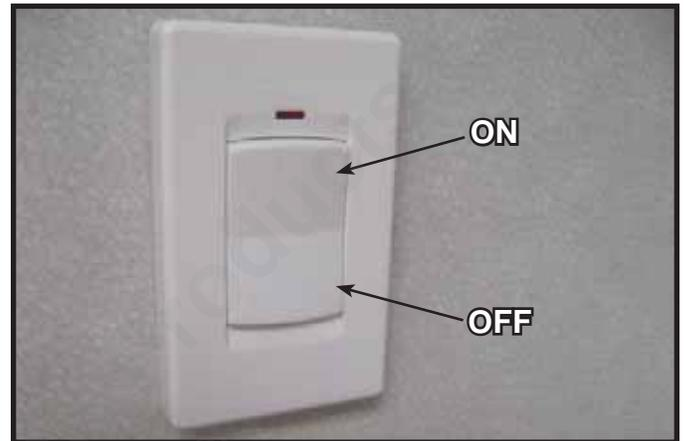

Figure 4. RC100 Function
6. Place the cover back on the wall switch and press the top button. The red light illuminates if the batteries were properly installed. See Figure 4.